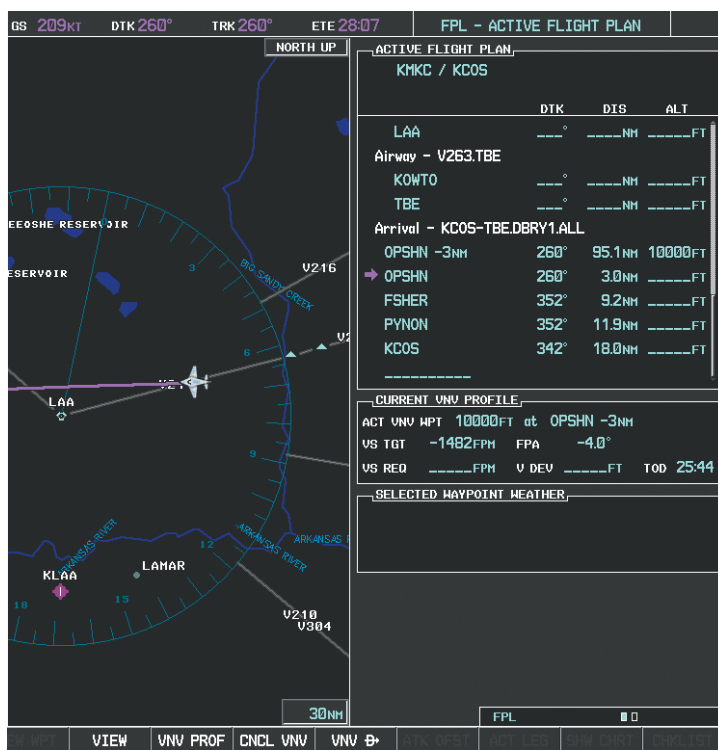

Figure 5-130 Direct-to Active
h) Press the **ENT** Key twice to activate the direct-to. Note, in Figure 5-130, the magenta arrow indicating the direct-to OPSHN after the offset waypoint for OPSHN. The preceding offset waypoint indicates the offset distance and altitude that were previously entered. The remaining waypoints in the loaded arrival procedure have no database specified altitudes, therefore, dashes are displayed. Keep the CDI centered and maintain a track along the magenta line to OPSHN.